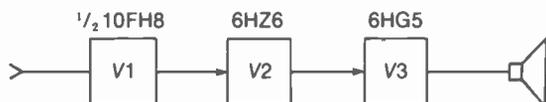

FIGURE 27-26 FOR PROBLEM 6.
- Give the function of each stage, with input and output signals, for the block diagram in Fig. 27-26 below, for the associated sound.